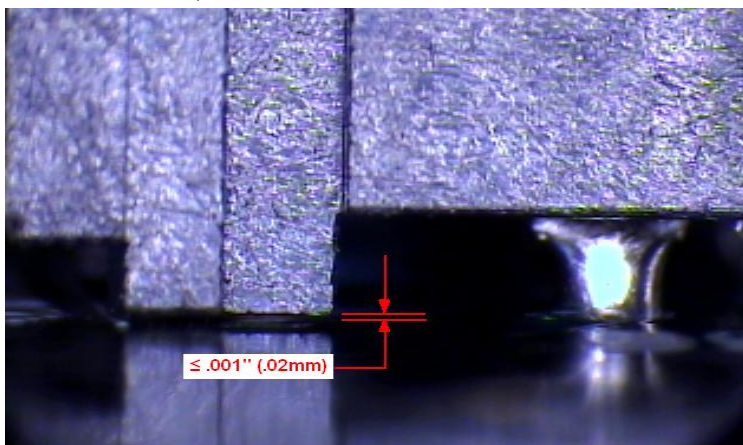

Fig. 5. The insulator housing of a reflowed SEARAY™ connector will rest on the board surface or slightly above. SEARAY™连接器的绝缘胶壳在回流后与主板之间没有或有一丝缝隙。
- As the solder charges reflow, the weight of the connector causes it to settle so that the body rests on or slightly above the board after processing. This phenomenon is why the upper coplanarity specification of .009" (.22mm) is acceptable for the SEARAY™ connector family (see **Fig. 5** below).当 Solder Charge 回流时，连接器的重量使其下垂并安放在板上，从而在回流后连接器胶壳接触主板或与其间有很小缝隙。这种现象正说明了 SEARAY™ 系列产品共面度上限 0.009"(0.22mm)是可接受的。(见下面 **Fig. 5**)